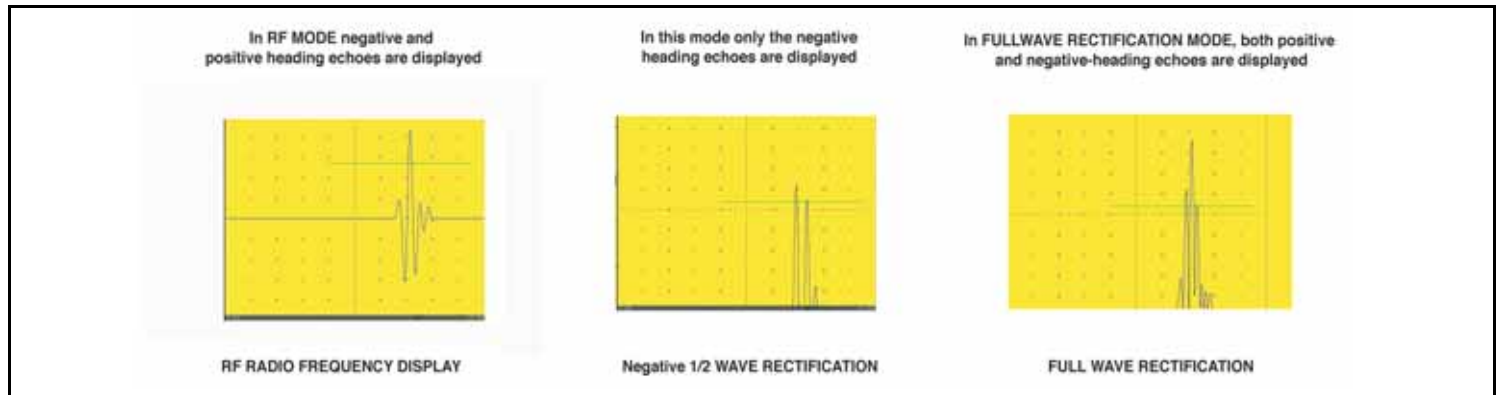

Figure 14: Typical RF and Rectified Signals
Rectification effects the orientation of the A-scan on the display screen. The A-scan represents the sound pulse (i.e., echo) that is returned to the instrument from the material being tested. The series of echoes looks like the *Radio Frequency (RF)* signal shown in *Figure 14* below. Note that the RF signal has both a negative component below the axis and a positive component above the axis. In RF mode, Gate A and Gate B can be positioned either above or below the axis, to be triggered by either a positive-heading echo or a negative-heading echo. The rectification mode is normally automatically set up by the probe selection. Most GEIT thickness gauge probes are designed to be used in negative rectification.
- *Negative Half wave Rectification* means that only the lower (i.e. negative) half of the RF signal is displayed (see *Figure 14 on page 41*). Note that although only the negative half of the RF signal is displayed, it is shown in the same orientation as a positive component to simplify viewing.
- *Full-Wave Rectification* combines the positive- and negative-rectified signals together, and displays both of them in a positive orientation (see *Figure 14 on page 41*).